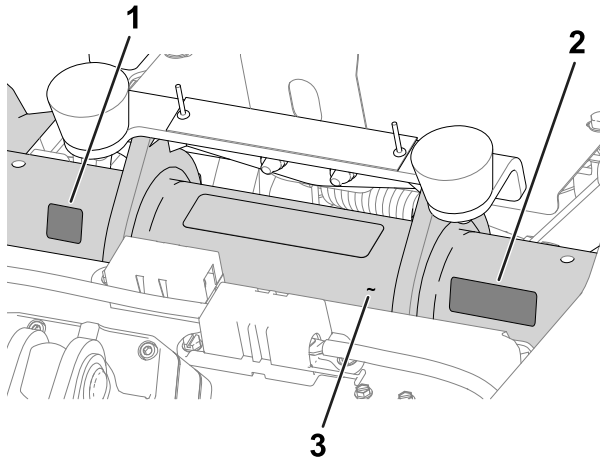

Figure 13
- **Production year decal** and **CE mark decal**: apply the decals on the frame tube below the seat and serial plate; refer to Figure 13.